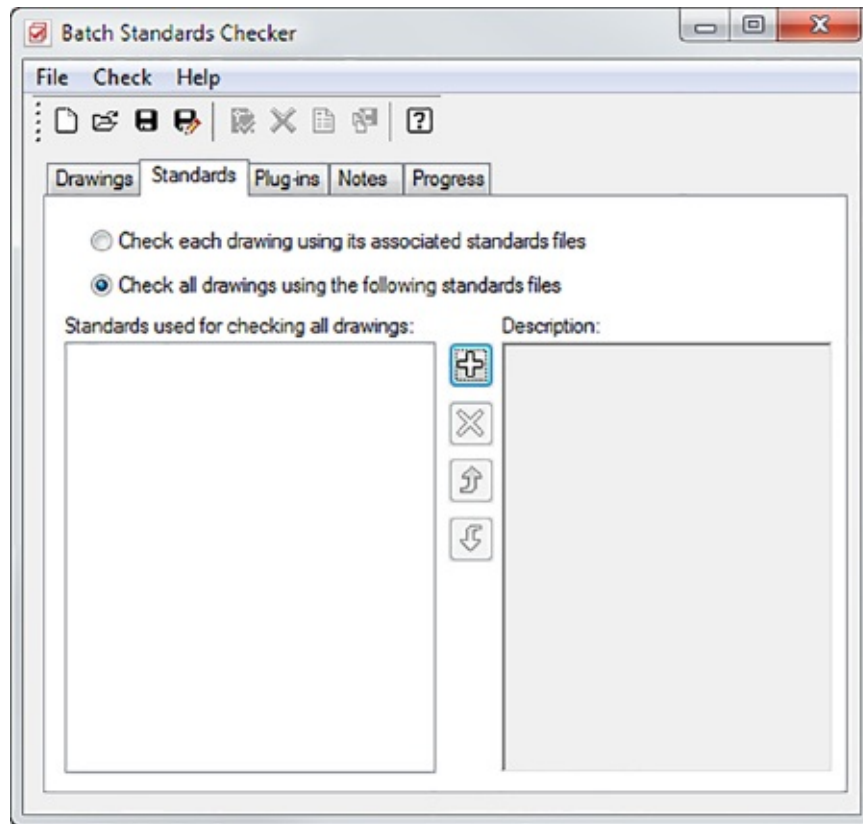

FIGURE 25.34 Choose the files that you want to check and then select the Standards tab.
4. Click the Standards tab (see Figure 25.34). This is where you can select the standards file against which your selection will be checked.